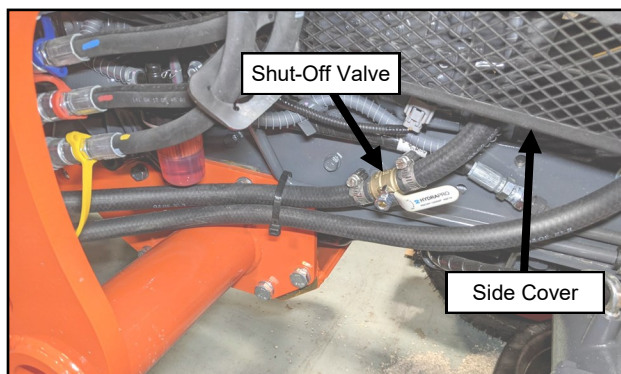

Fig. 15.16 (Heater Shut-Off Valve)
- 15.16** At installer's preference, select a location to splice the supplied shut-off valve into the supply line coming from the nipple in the thermostat housing. See Figure 15.16. Ensure the engine side cover does not interfere with valve operation.